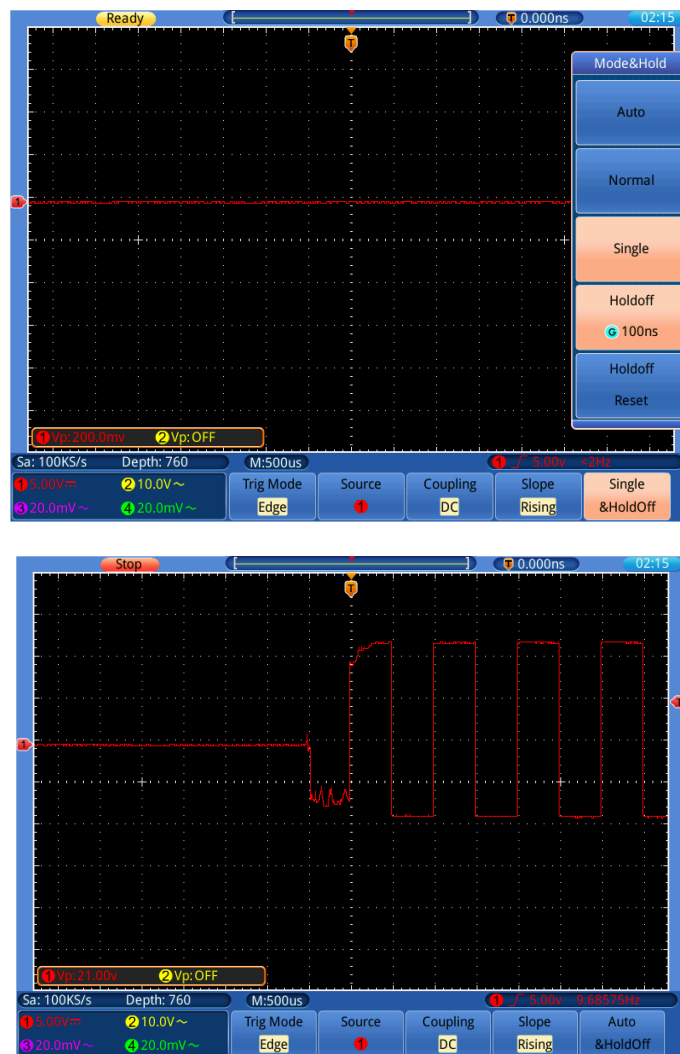

Figure 0-3 Capturing a Single Signal
- (1) Set the probe menu attenuation coefficient to 10X and that of the switch in the probe to 10X (see "
- (2) *How to Set the Probe Attenuation **Coefficient**"* on P101).
- (3) Adjust the **VOLTS/DIV** and **SEC/DIV** knobs to set up a proper vertical and horizontal ranges for the signal to be observed.
- (4) Press the **TRIGGER Menu** button.
- (5) Select **Trig Mode** in the bottom menu; select **Edge** in the left menu.
- (6) Select **Source** in the bottom menu; select ① in the left menu.
- (7) Select **Coupling** in the bottom menu; select **DC** in the right menu.
- (8) Select **Slope** in the bottom menu; switch it to **Rising**.
- (9) Select **Mode&HoldOff** in the bottom menu; select **Single** in the right menu.
- (10) Adjust the trigger level to the roughly 50% of the signal to be measured, you can use the **TRIG LEVEL** knob or the touchscreen (see "*Vertikalsystem per Touchscreen*" on P21).
- (11) Check the Trigger State Indicator on the top of the screen, if it is not Ready, push down the **Run/Stop** button and start acquiring, wait for trigger to happen. If a signal reaches to the set trigger level, one sampling will be made and then displayed in the screen. By using this approach, a random pulse can be captured easily. For instance, if we want to find a burst burr of high amplitude, set the trigger level to a slightly higher value of the average signal level, press the **Run/Stop** button and wait a trigger. Once there is a burr occurring, the instrument will trigger automatically and record the waveform during the period around the trigger time. By turning the **HORIZONTAL POSITION** knob in the horizontal control area in the panel, you can change the horizontal triggering position to obtain the negative delay, making an easy observation of the waveform before the burr occurs (see *Figure 0-3*).